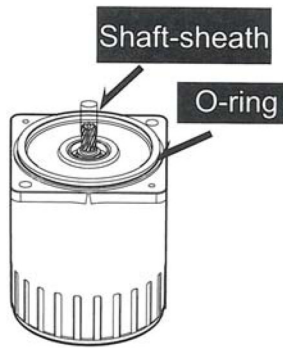

Figure 14.
2. Remove the O-Ring from the seal cap and loop it flatly around the flange or motor bracket. (Figure 14)
3. Turn the motor upwards and remove the shaft-sheath. (Figure 14)